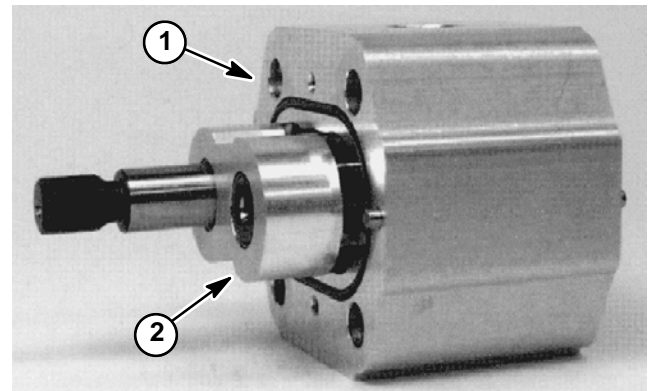

Figure 103
7. Place the motor on its side and push on the rear bearing block to remove the bearing block and gear set (Fig. 103).